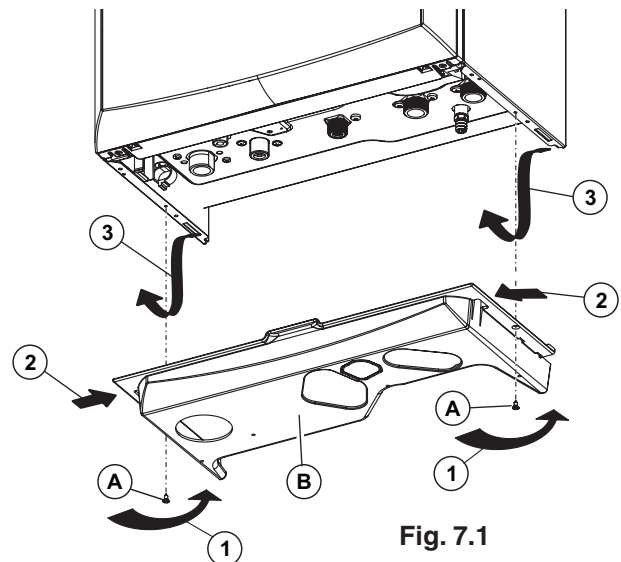

Fig. 7.1
7.2 CASING REMOVAL - Figs. 7.1, 7.2, 7.3 and 7.4
Bottom cover - Fig. 7.1
11. Relace the bottom cover (Fig. 7.1).